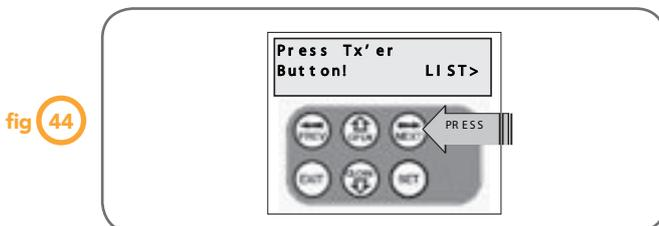

fig 44
3. Press NEXT to enter transmitter list and edit mode (Fig. 44). Used if the transmitter is not available.